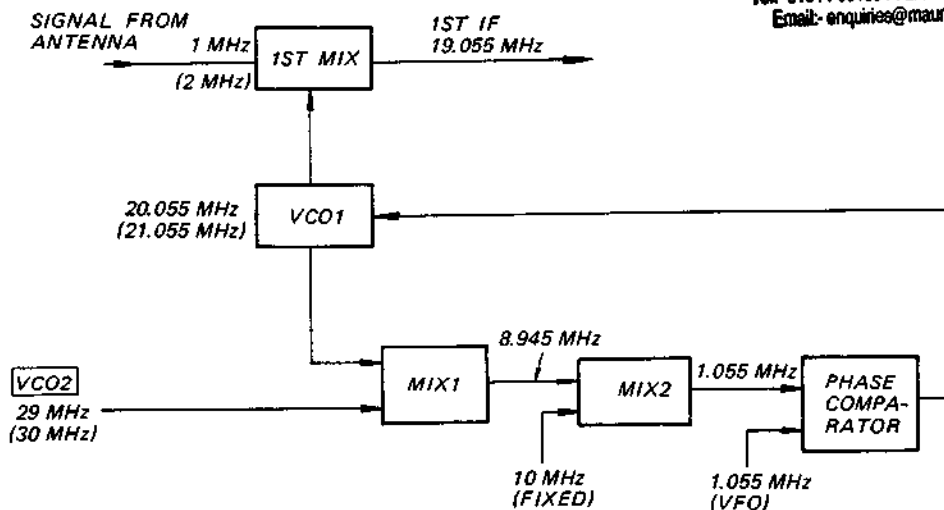

Fig. 5
1) Fig. 5 is a block diagram showing the principle of the PLL circuit employed in this set. Let us consider this block diagram.
When the two signals are mixed by the mixer 2, a 1.055 MHz signal ($10 - 8.945 = 1.055$ MHz) is produced as the output of the mixer 2, and is then fed to the phase comparator. Meanwhile, a separate signal from an oscillator is also fed to the phase comparator as shown in Fig. 5 [Hereinafter, this oscillator will be referred to as the VFO.]
With a PLL circuitry as shown in Fig. 5, it is the stability of the three oscillators, VCO2, the 10 MHz fixed oscillator, and the VFO, that determine the overall stability of the PLL. By using a crystal oscillator for the 10 MHz fixed oscillator, ample stability can be obtained. As for the VFO, since its oscillator frequency is not so very high, stable oscillation can be obtained even with an L-C oscillator. Therefore, VCO2 determines the ultimate stability of the PLL.
Fig. 7 is essentially the block diagram shown in Fig. 5 to which the frequencies of each of the sections are indicated when receiving 1 MHz, 10 MHz, and 20 MHz signals.